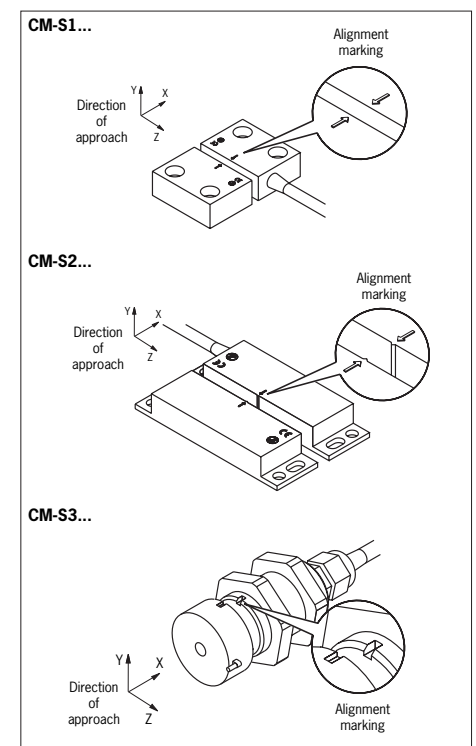

Fig. 1: Alignment of read head and actuator
The read head and actuator may be installed in any position. The alignment of the read head and the actuator must be kept in mind (see figure 1).
- when the safety guard is closed, the active read head and actuator area are exactly aligned (see figure 1)
- If the approach speed between the read head and the actuator is low and the control unit CM-S4 is used, the approach direction z (see figure 1) should be avoided.